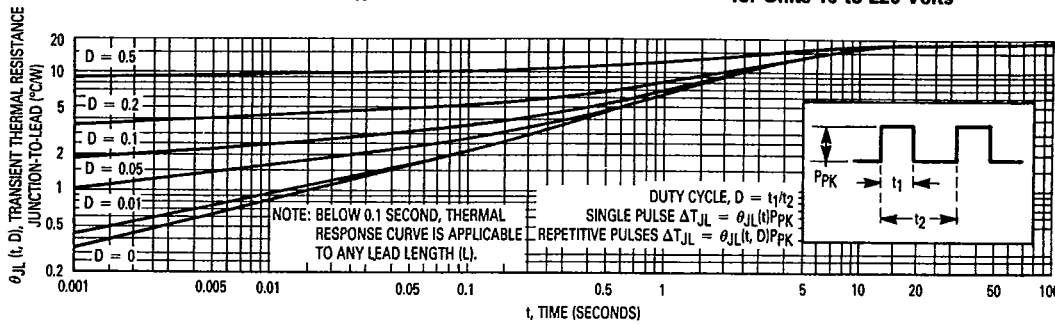
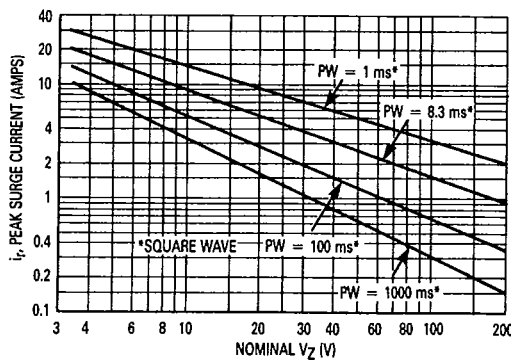
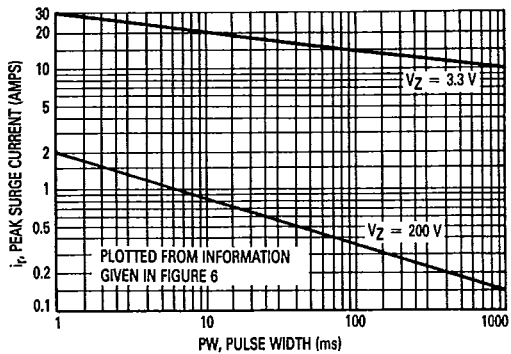

Figure 4. Typical Thermal Response L, Lead Length = 3.8 Inch
Figure 6. Maximum Non-Repetitive Surge Current versus Nominal Zener Voltage (See Note 3)
Figure 7. Peak Surge Current versus Pulse Width (See Note 3)
- (1) TOLERANCE AND VOLTAGE DESIGNATION — The JEDEC type numbers shown indicate a tolerance of ±10% with guaranteed limits on only V_Z, I_r, and V_r as shown in the electrical characteristics table. Units with guaranteed limits on all seven parameters are indicated by suffix "A" for ±10% tolerance and suffix "B" for ±5%, C for ±2% and D for ±1%.
- (2) ZENER VOLTAGE (V_Z) AND IMPEDANCE (Z_{ZT} & Z_{ZK}) — Test conditions for Zener voltage and impedance are as follows: I_Z is applied 40 ± 10 ms prior to reading. Mounting contacts are located 3/8" to 1/2" from the inside edge of mounting clips to the body of the diode. (T_A = 25°C ± 2°C).
- (3) SURGE CURRENT (I_r) — Surge current is specified as the maximum allowable peak, non-recurrent square-wave current with a pulse width, PW, of 8.3 ms. The data given in Figure 6 may be used to find the maximum surge current for a square wave of any pulse width between 1 ms and 1000 ms by plotting the applicable points on logarithmic paper. Examples of this, using the 33 V and 200 V zeners, are shown in Figure 7. Mounting contact located as specified in Note 3. (T_A = 25°C ± 2°C).
- (4) VOLTAGE REGULATION (ΔV_Z) — Test conditions for voltage regulation are as follows: V_Z measurements are made at 10% and then at 50% of the I_Z max value listed in the electrical characteristics table. The test currents are the same for the 5% and 10% tolerance devices. The test current time duration for each V_Z measurement is 40 ± 10 ms. (T_A = 25°C ± 2°C). Mounting contact located as specified in Note 2.
- (5) MAXIMUM REGULATOR CURRENT (I_{ZM}) — The maximum current shown is based on the maximum voltage of a 5% type unit, therefore, it applies only to the B-suffix device. The actual I_{ZM} for any device may not exceed the value of 5 watts divided by the actual V_Z of the device. T_L = 75°C at 33° maximum from the device body.
Data of Figure 4 should not be used to compute surge capability. Surge limitations are given in Figure 6. They are lower than would be expected by considering only junction temperature, as current crowding effects cause
temperatures to be extremely high in small spots resulting in device degradation should the limits of Figure 6 be exceeded.